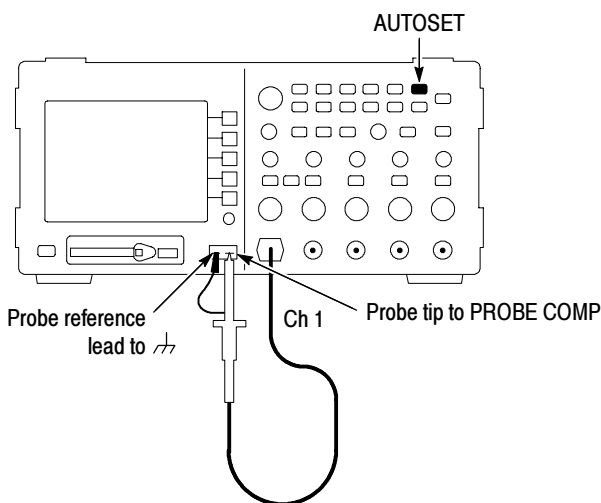

Figure 3: LF compensation setup
1. Connect the probe to the Probe Comp signal on your TPS2000 instrument and then press **AUTORANGE**. See Figure 3. Use the reference lead connection to obtain the proper waveform.